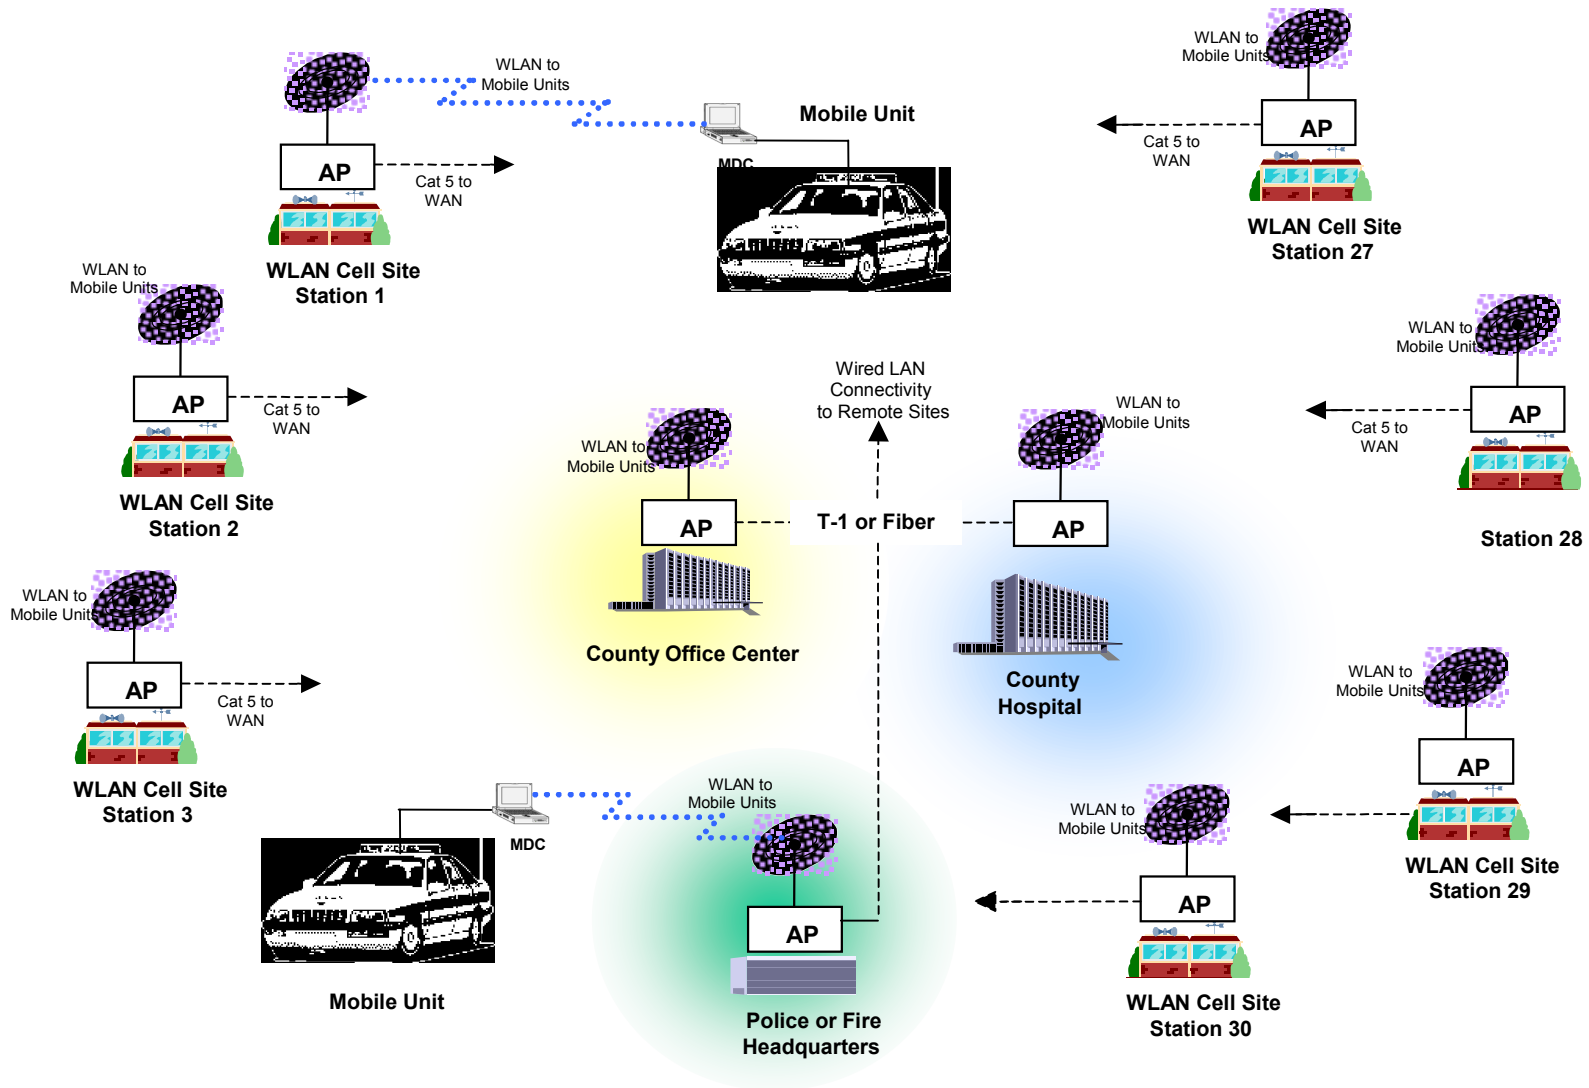

Figure 1. Notional Extended Range WLAN System Architecture
Figure 1 on the next page illustrates a notional Extended Range (Amplified) WLAN infrastructure. It is based solely on a baseline concept of offering an extended range wireless LAN connectivity between mobile data computer vehicles operating within extended LOS range to any one of the identified WLAN cell sites or fixed (AP) relay stations for seamless wireless connectivity back into the agency's supporting WAN infrastructure.